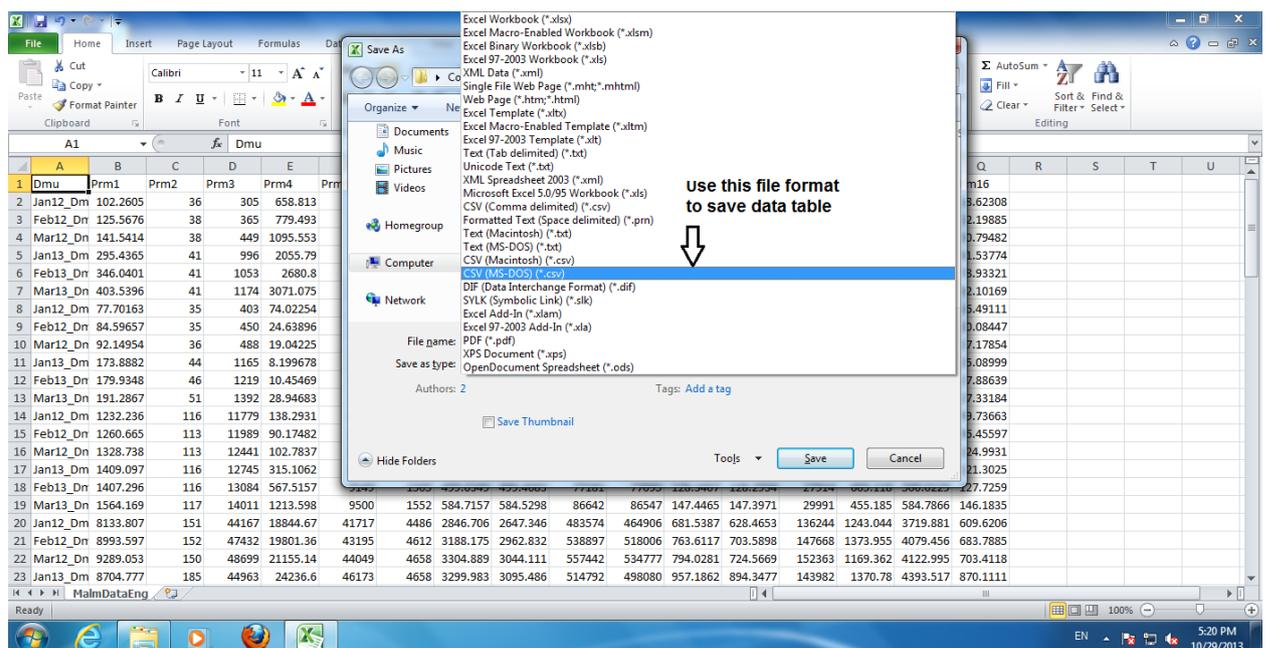

Figure 15 Example of saving source data to .csv file using Microsoft Excel
2. Save the data as a .csv file. On Figure 15, you can see how to properly save your data in this format using Microsoft Excel.